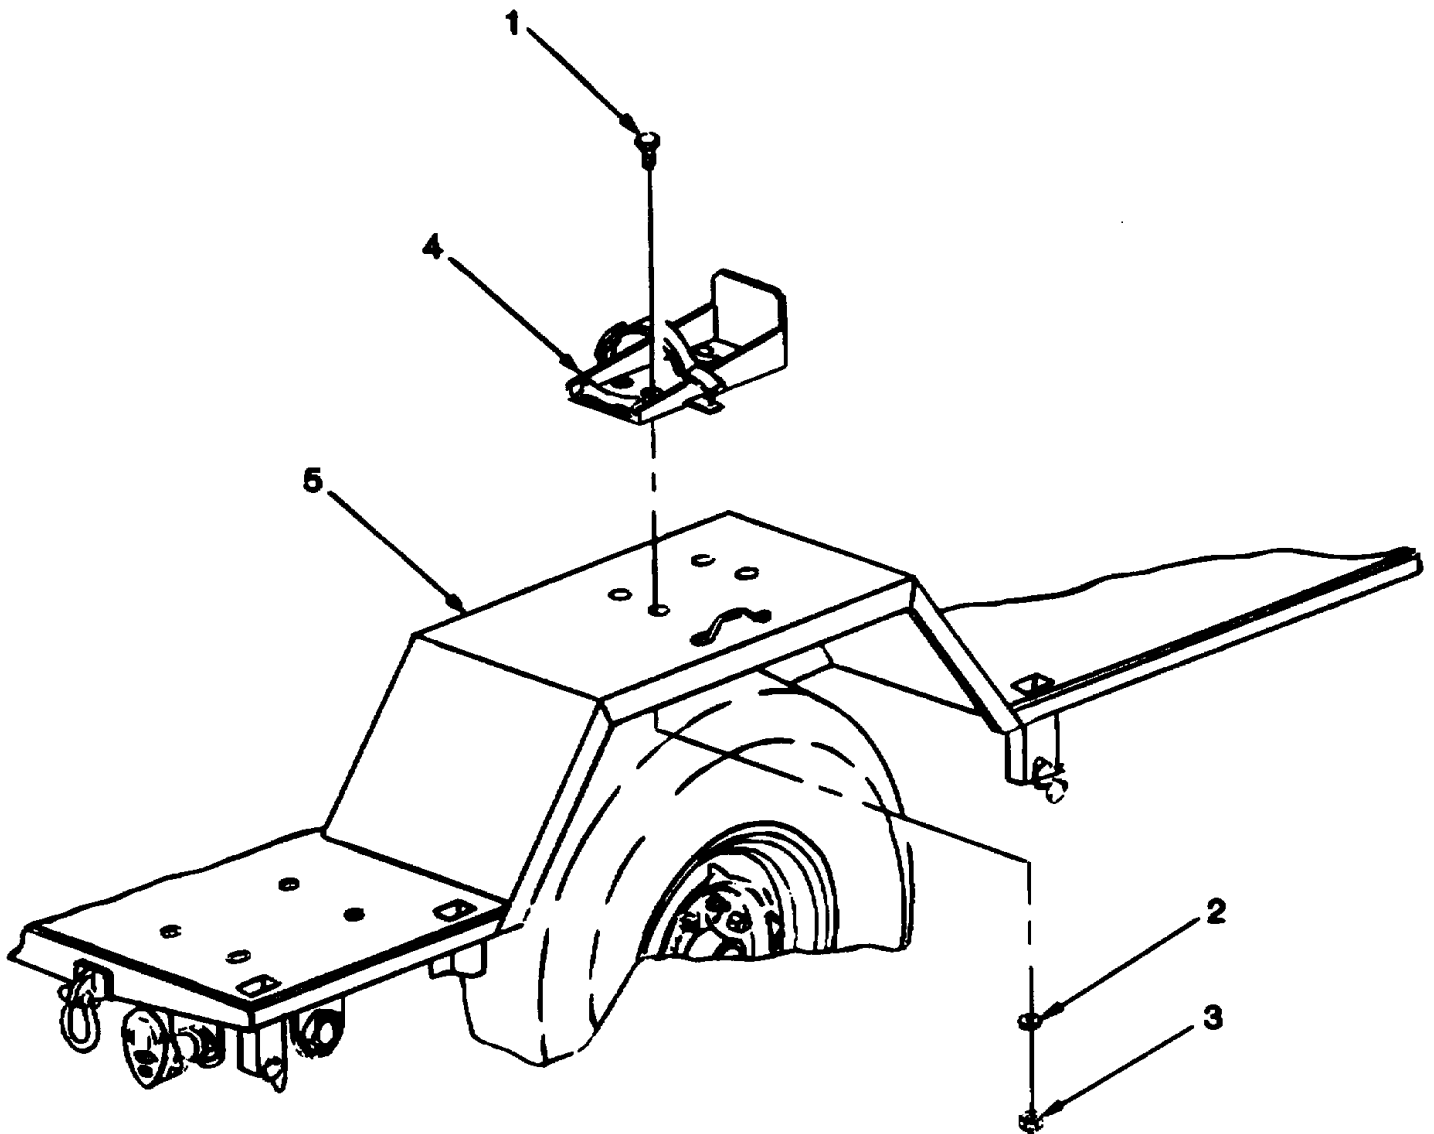

Figure 4-15. Fire Extinguisher Bracket Replacement.
(1) Remove four screws (1, figure 4-15), flat washers (2) and nuts (3) securing bracket (4) to fender (5).
(2) Remove bracket (4) from fender (5).